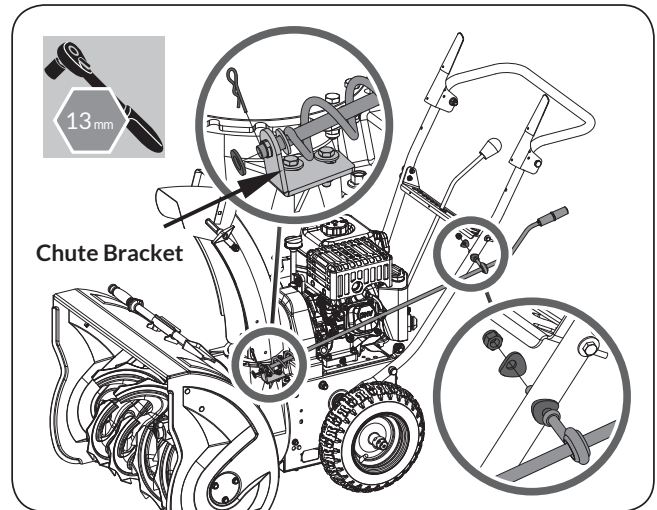

**Figure 5c**
3. Secure the three flange keepers to the bottom of the chute crank flange by sliding the bolts through the chute base holes, sliding the keepers up from the bottom, then securing them with the included nuts. (See **Figure 5c**)